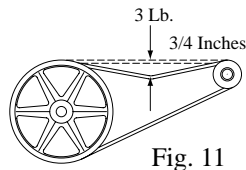

Fig. 11
• **Check belt tension.** A 3 lb. force should deflect the belt 3/4 inches (see Fig. 11). Readjust belt if needed.